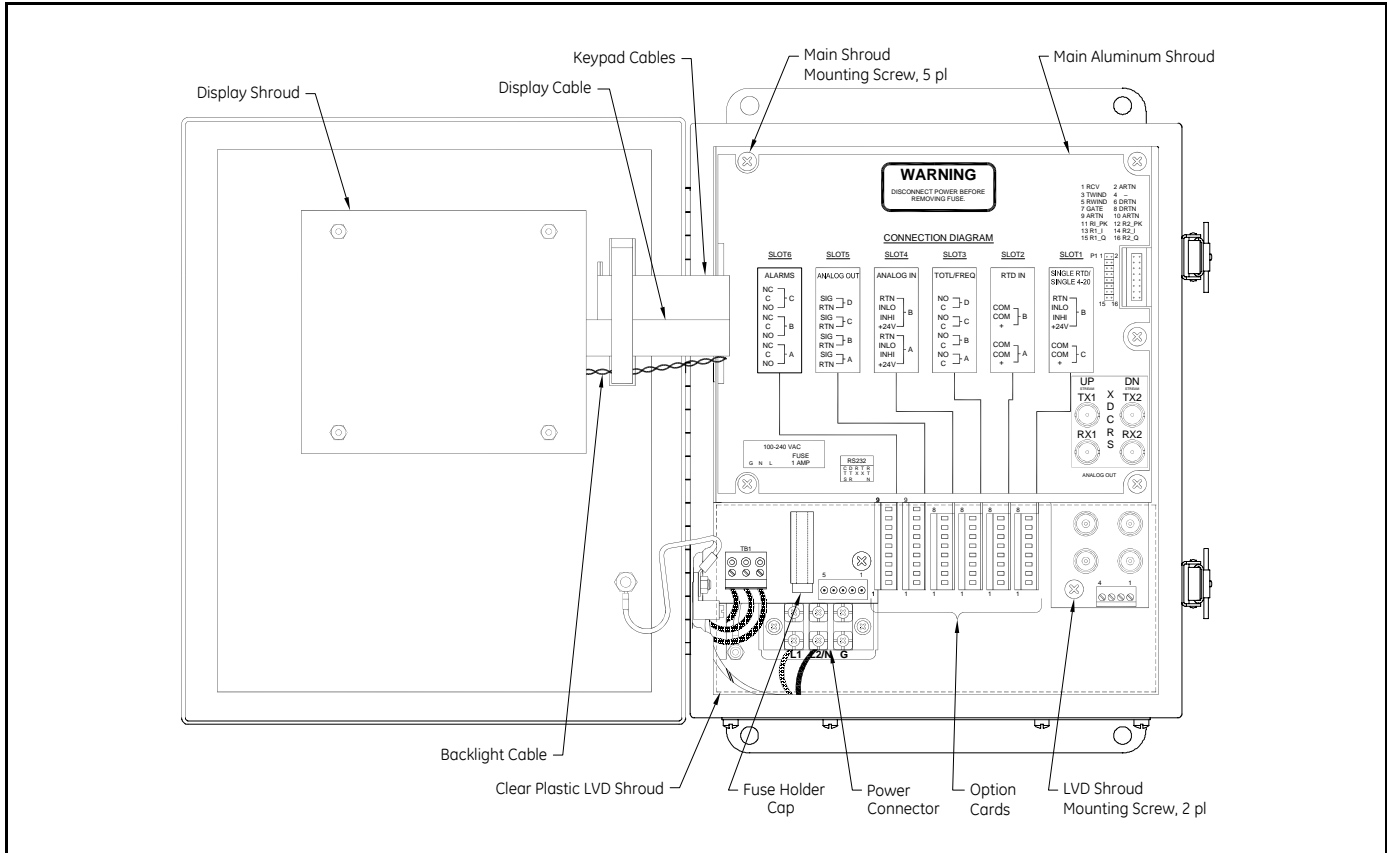
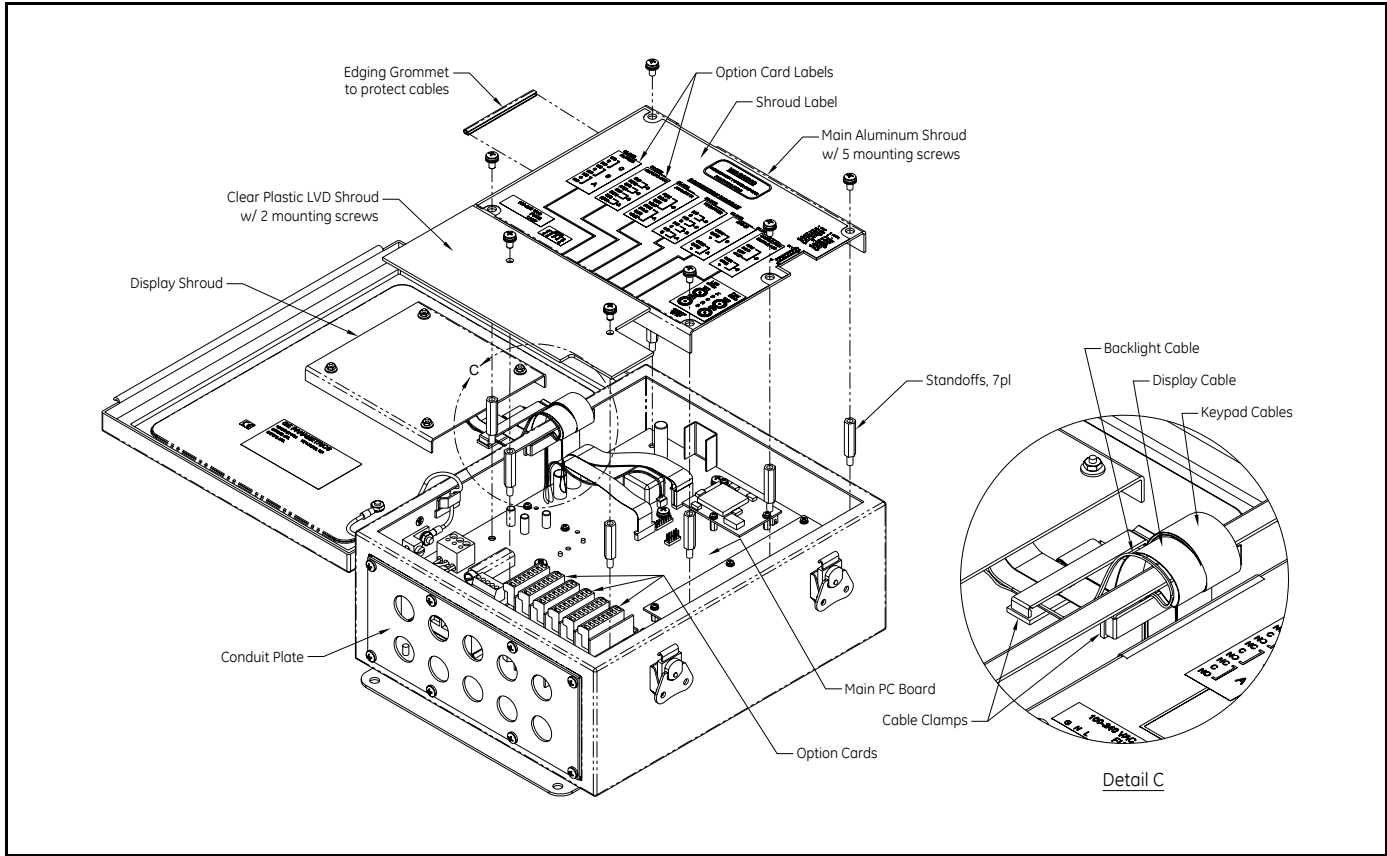

Figure 5-1: CTF878 Electronics Console Assembly
Figure 5-2: CTFR78 Electronics Console Assembly - Isometric (ref. dwg #705-1204)
2. Locate the black plastic fuse holder that is mounted on the printed circuit board between the power terminal block TB1 and the RS232 terminal block. As shown in Figure 5-1 on page 5-9, the fuse holder extends below the main aluminum shroud, and the fuse holder cap is located on the bottom of the fuse holder.
Some of the maintenance procedures require removal of the printed circuit board. To accomplish this, refer to Figure 5-1 on page 5-9 and Figure 5-2 on page 5-10 while completing the following tasks:
To install an option card, refer to Figure 5-1 on page 5-9 and Figure 5-2 on page 5-10, and complete the following steps:
6. Place the metal bracket over the option cards, making sure that all option cards are aligned with the plastic card guides in the bracket. Secure the metal bracket to the printed circuit board with the snap rivets provided. See the installed assembly in Figure 5-1 on page 5-9 and Figure 5-2 on page 5-10.
Whether the printed circuit board was removed for replacement or for one of the other procedures discussed in this chapter, reinstallation of the printed circuit board is the final step in the process. Refer to Figure 5-1 on page 5-9 and Figure 5-2 on page 5-10, and complete the following steps:
The CTF878's measurements are displayed on a two-pane LCD graphic display panel. The LCD display normally provides years of dependable service, but it is easily field-replaceable when necessary. To replace the LCD display, see Figure 5-1 on page 5-9 for the component locations, and complete the following steps:
2. Disconnect the white-ribbon display cable from connector J7, open the two cable brackets (inside the enclosure and on the inside surface of the cover), and free the display cable. See Figure 5-2 on page 5-10.